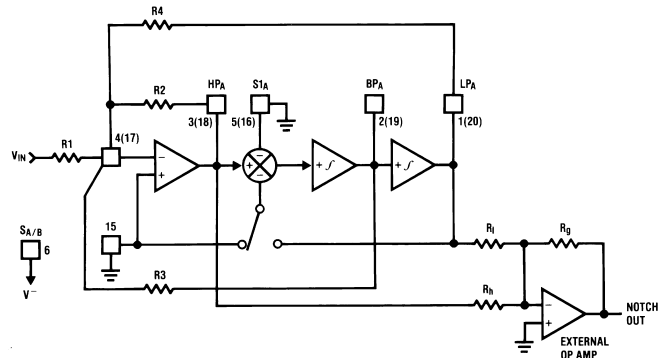

Figure 45. MODE 3a
8.4.1.6 MODE 3a: HP, BP, LP and Notch With External Op Amp (See Figure 45)